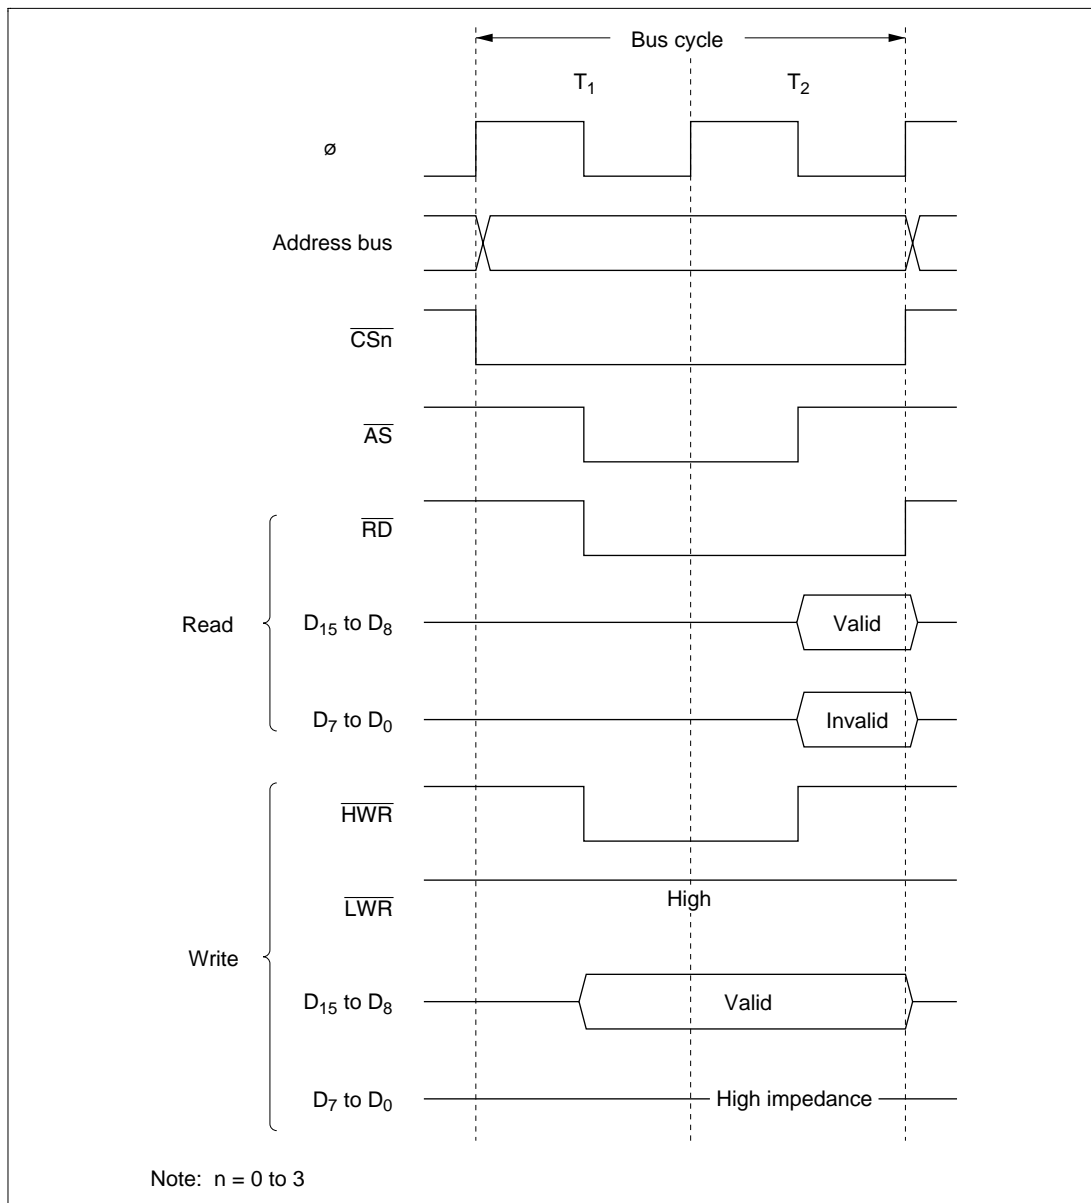

Figure 6-6 Bus Timing for 8-Bit 2-State Access Space
(1) **8-Bit 2-State Access Space:** Figure 6-6 shows the bus timing for an 8-bit 2-state access space. When an 8-bit access space is accessed, the upper half (D_{15} to D_8) of the data bus is used.